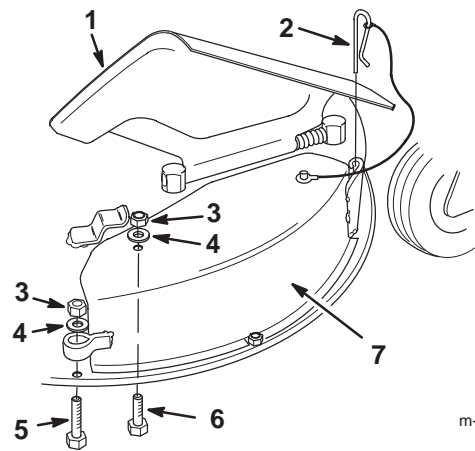

Figure 53
3. Raise the grass deflector and remove the chute pin on the front of the discharge cover (Fig. 53).
4. Remove the locknut, flat washer, and bolt (5/16 x 1-1/4 in.) holding the top of the discharge cover to the top of the mower (Fig. 53).
5. Remove the locknut, flat washer, and bolt (5/16 x 2-1/4 in.) holding the loop on the rear of the discharge cover to the deck ring (Fig. 53).
6. Remove the discharge cover from the mower (Fig. 53).